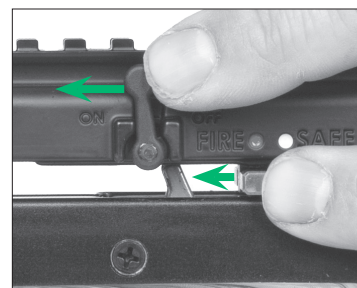

FIGURE 15
- 1a Push and Hold the Cocking Preparation Switch forward. (Fig. 15)
- 1b While holding the Cocking Preparation Switch forward, slide the safety switch from the ON SAFE position to the FIRE position. (Fig. 15)
- 1c Release the Cocking Preparation Switch once the safety switch is in the FIRE position. (Fig. 15)